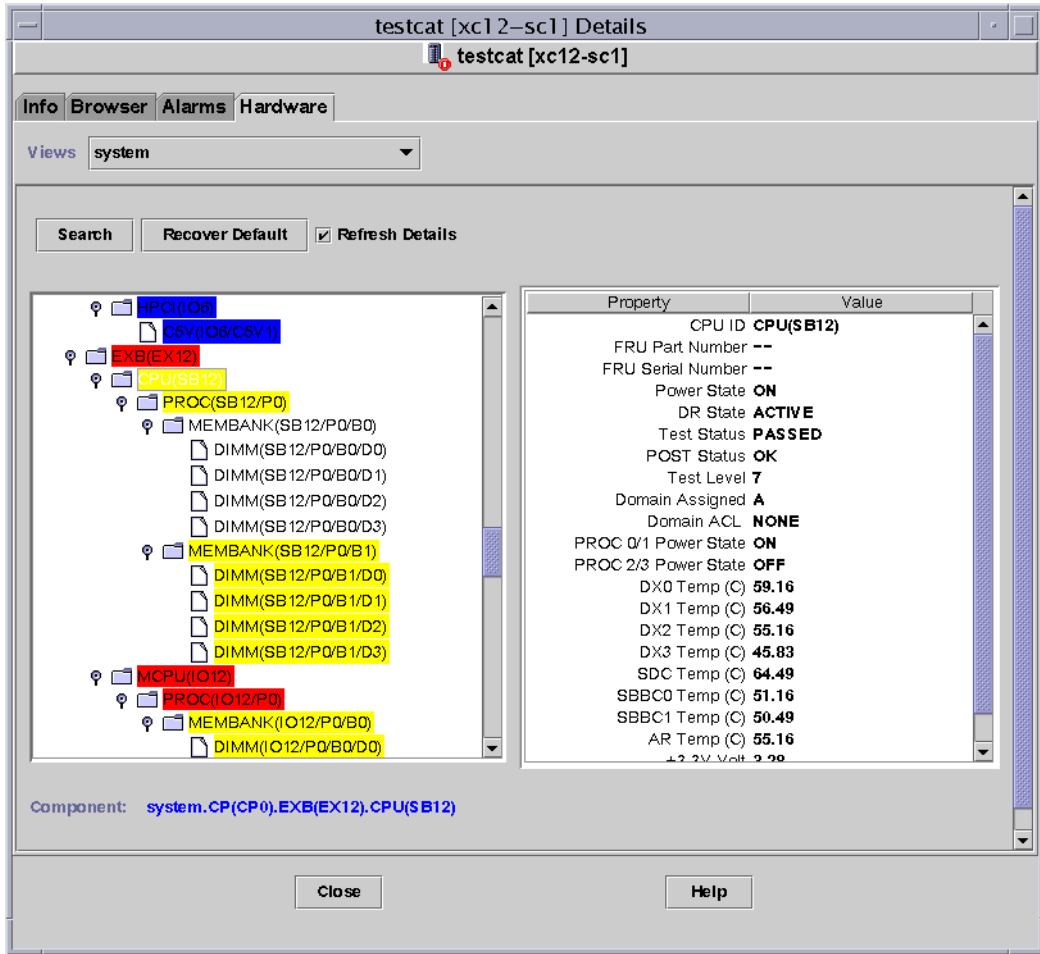

FIGURE 5-4 Sun Fire High-End Systems Platform Logical View
4. Click on the Expand All button and then click on an object in the left pane to see a logical view similar to FIGURE 5-4.